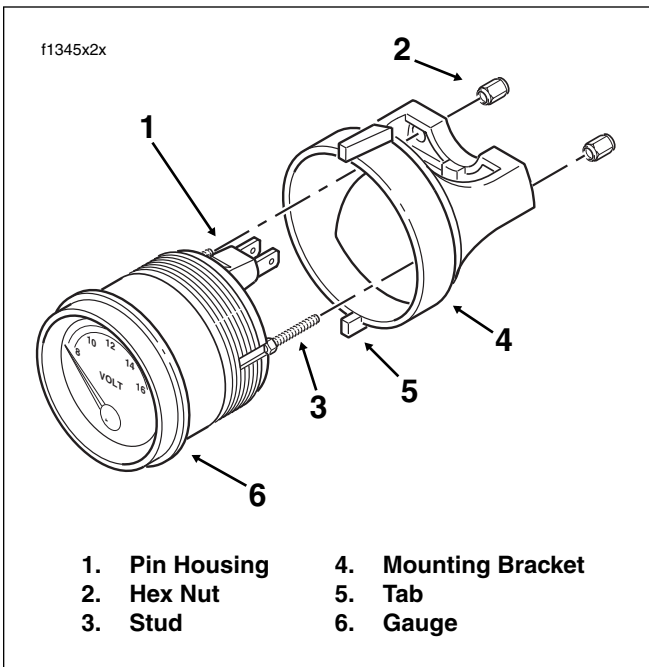

Figure 2-166. Voltmeter Gauge Assembly
30. At bench area, remove hex nuts from studs at back of voltmeter and fuel gauges. Remove mounting brackets from gauges and remove gauges from inner fairing. See Figure 2-166. On Classic and Ultra models, repeat step to remove oil pressure and air temperature gauges.
2. Install voltmeter and fuel gauges in inner fairing. Slide mounting brackets over studs. Verify that tabs on top and bottom of brackets engage slots in inner fairing. Loosely install hex nuts on studs. Verify that gauge is properly aligned and tighten nuts to 10-20 **in-lbs** (1.1-2.3 Nm). See Figure 2-166. On Classic and Ultra models, repeat step to install air temperature and oil pressure gauges.